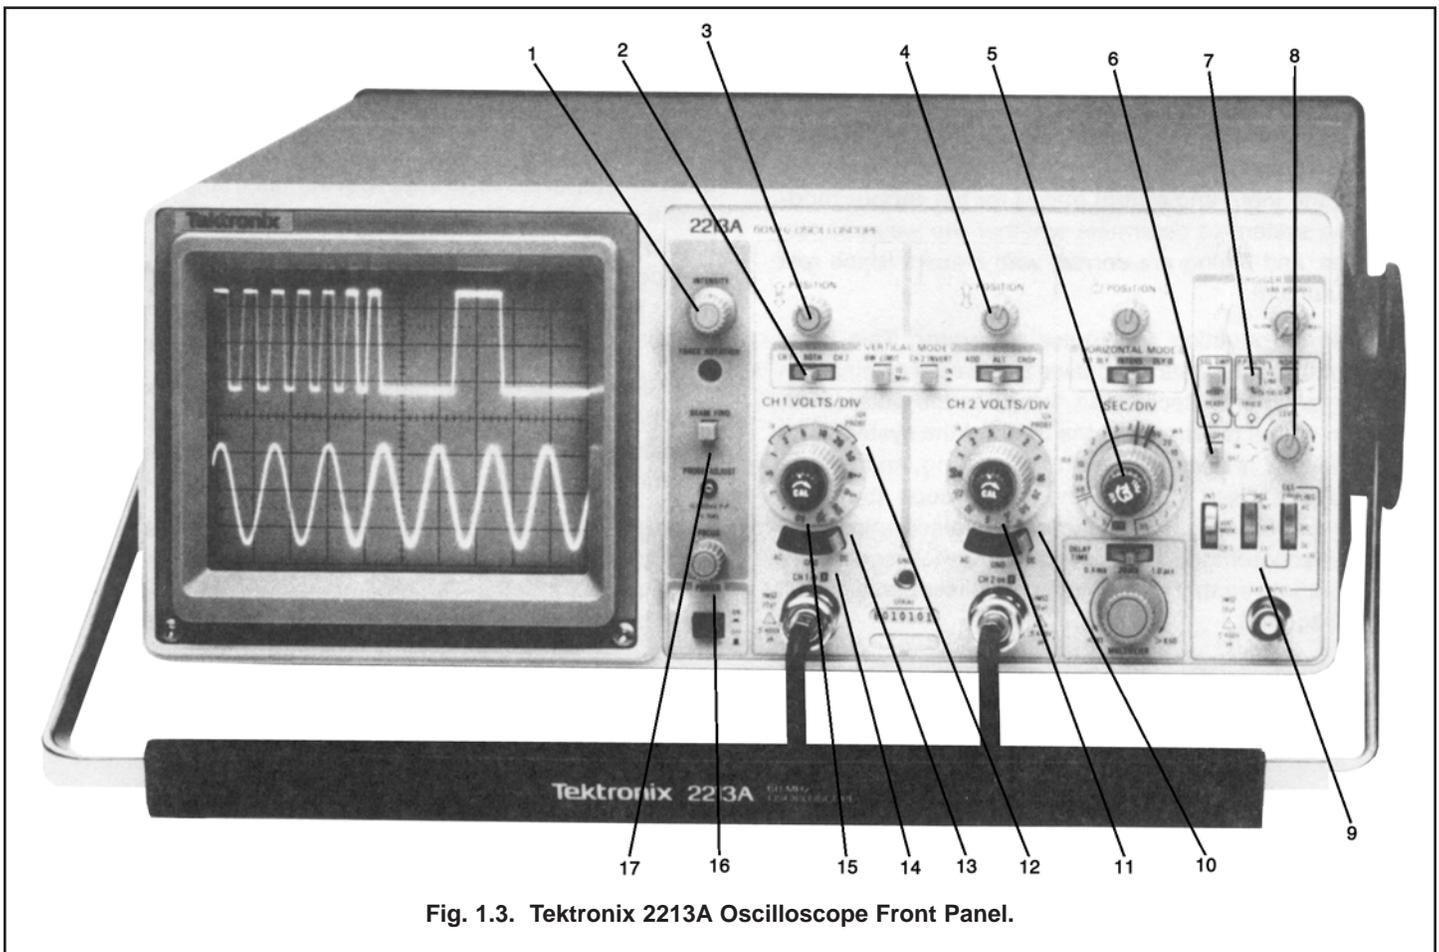

Fig. 1.3. Tektronix 2213A Oscilloscope Front Panel.
Since most laboratories have an oscilloscope similar to the Tektronix 2213A, this brief discussion will be concerned with these types. Familiarity with the operation of a Tektronix unit makes it quite easy to learn the functions of any other oscilloscope. For reference, Fig. 1.3 shows the front panel details of a Tektronix 2213A oscilloscope.
**Table 1.1. Oscilloscope Parameters.** (Keyed to Fig. 1.3)